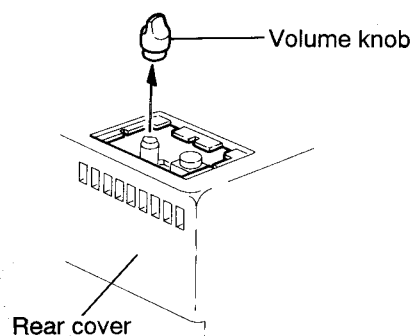

Fig. 7-1
■ How to Remove the Upper Cover (Refer to Fig. 7-1~4)
4. From the right and left sides of the body, remove the four screws (3) retaining the upper cover.
5. Remove the Screw (A) retaining the micjack P.C. board.